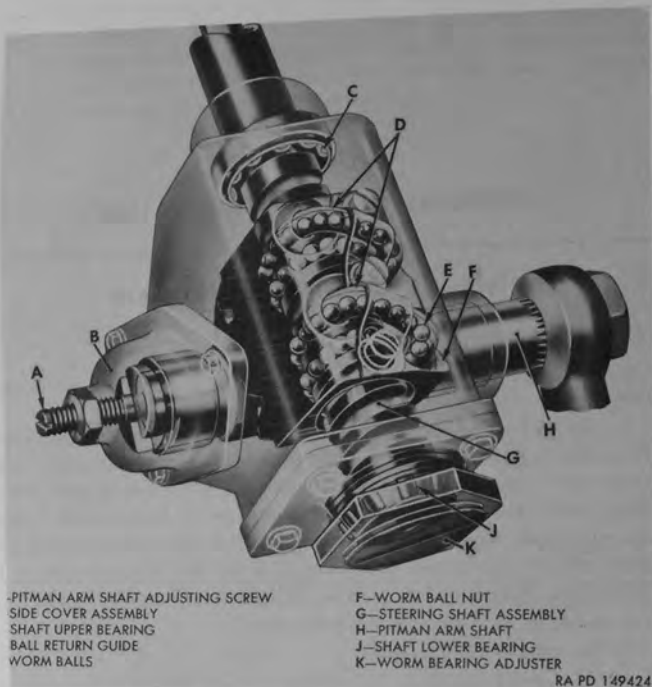

Figure 185. Phantom view of steering gear mechanism.
Note. Key letters noted in parentheses are in figure 185 unless otherwise indicated.
- (2) *Operation* (fig. 185).—As steering wheel turns steering shaft with integral worm, worm ball nut travels on worm as with an ordinary screw thread. Balls, circulating in helical grooves of ball nut and shaft worm, travel within their separate circuits. A screw action, with rolling instead of sliding contact, is obtained. The movement of worm ball nut teeth in contact with the sector teeth on Pitman arm shaft turns the Pitman arm shaft. The movement of the Pitman arm, attached to the arm shaft, turns front wheels by means of the interconnecting drag link.